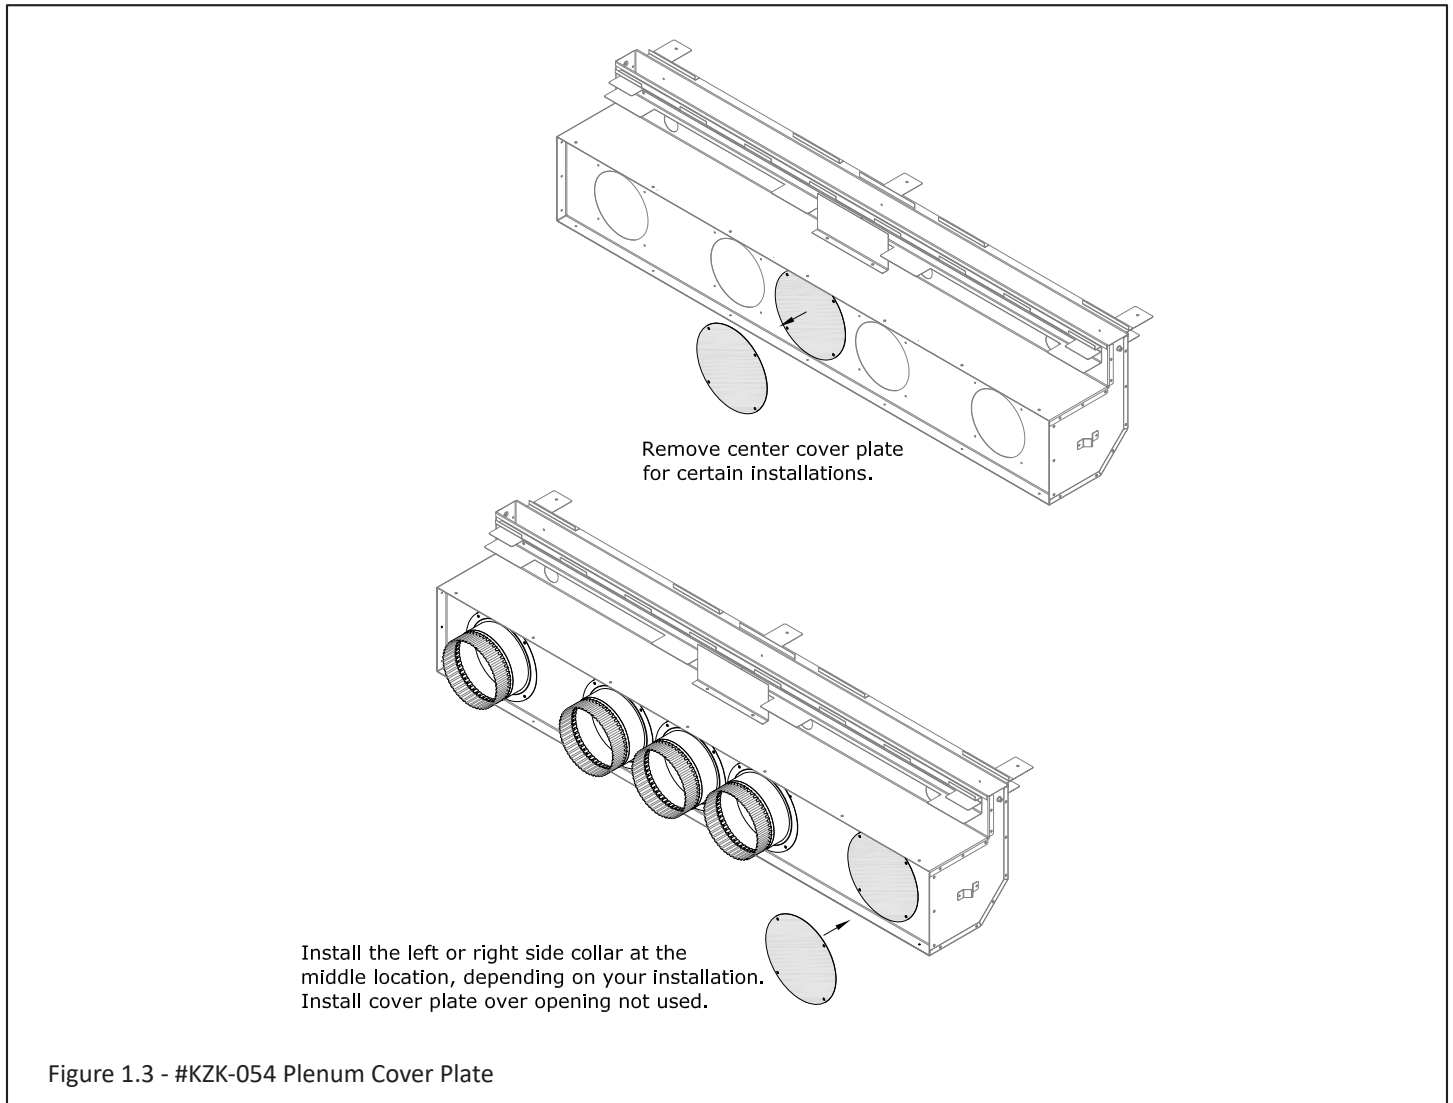

Figure 1.3 - #KZK-054 Plenum Cover Plate
- The center cover plate does not need to be removed. Install (4) plenum collars to (4) openings.
- For certain installations you may need to remove the center cover plate (Figure 1.3), and install a plenum collar in the center opening of the plenum. See Section 1.3 and Figure 1.5 for additional information.